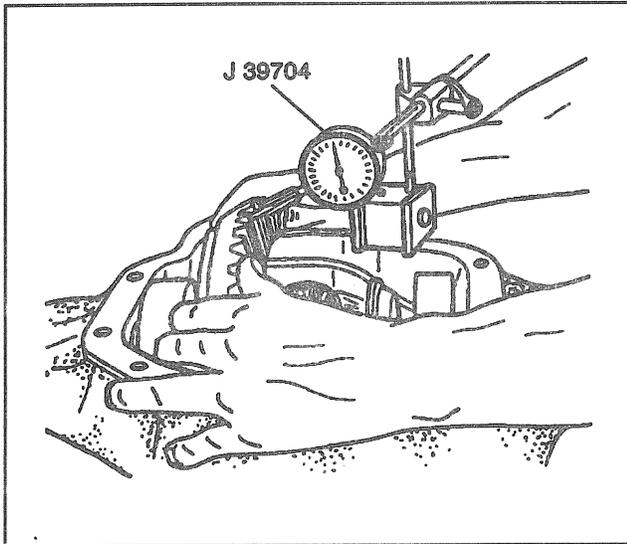

Figure 28—Measuring Backlash
- Mount a dial indicator with a magnetic base to the axle housing (Figure 28).